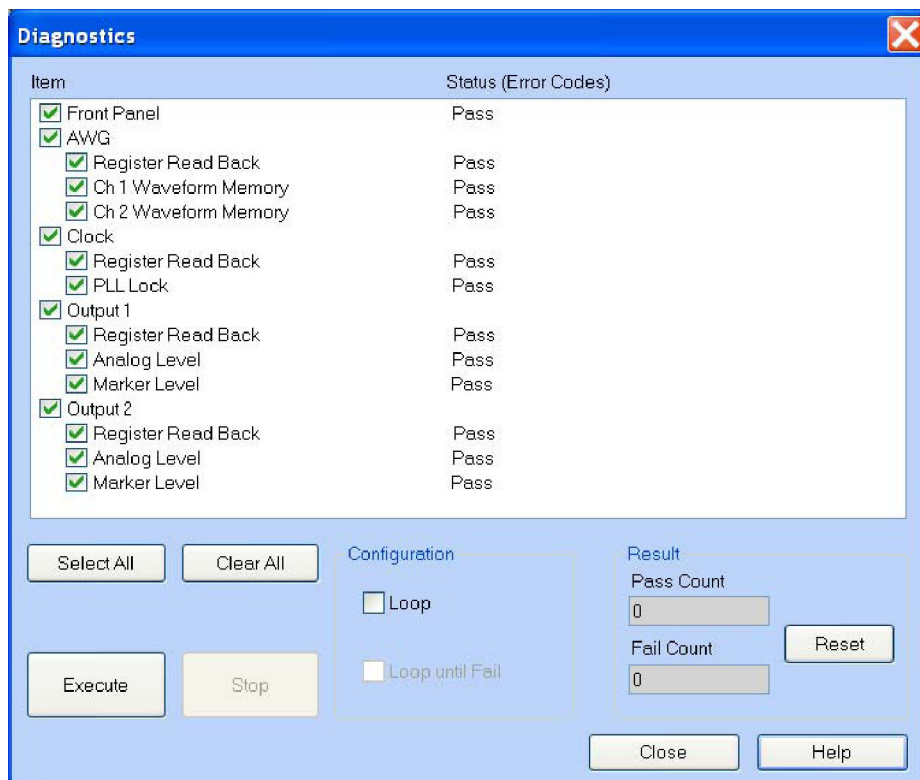

Figure 36: Diagnostics dialog box
2. From the menu bar, select **System** and then select **Diagnostics...**; the Diagnostics dialog box appears. (See Figure 36.)